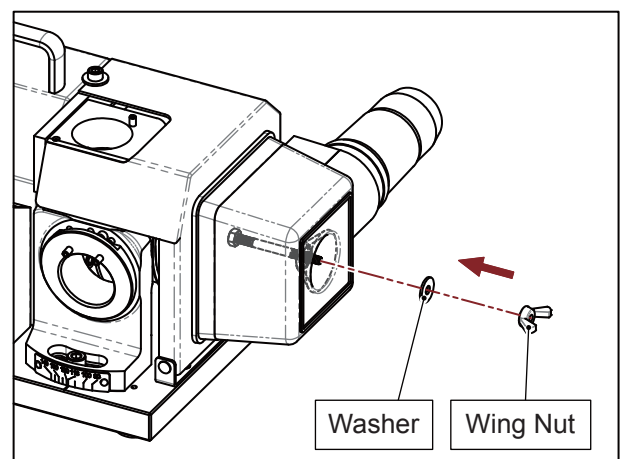

Fig. 2-3
3. Assemble the washer and wing nut and tighten the wing nut to secure the dust collection adapter. (Fig. 2-3)